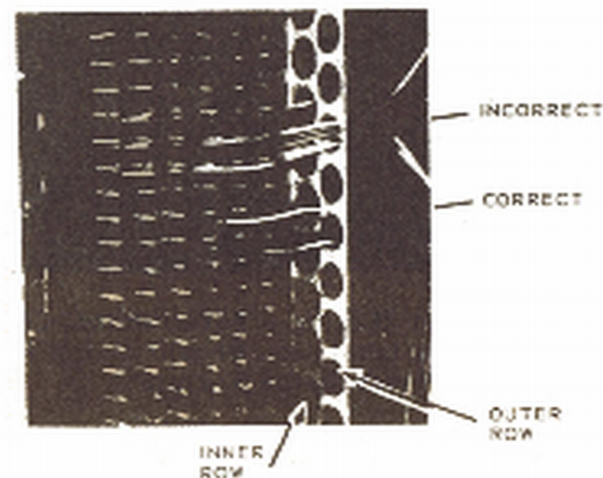

Figure 9. Example of Correct and Incorrect Jumper Runs Through a Fanning Strip. One Set of Jumper Wires Has Been Run Through the Wrong Hole, Others are Correct.
5.13 Be sure to run the jumpers through the correct holes in the fanning strips of connecting blocks (Figure 9). Avoid crossing jumpers at the holes of blocks on the vertical side of the LIDF. If a jumper comes to a block (vertical) from a higher (horizontal) level, do not run it around existing jumpers in the outer row of holes (see Figure 9) to get to the inner row. Pull existing jumpers in the outer row toward the outer edge of the block. This will clear a "straight run" to the hole in the inner row. Make every effort to avoid running a jumper in such a way that it will interfere with another jumper.